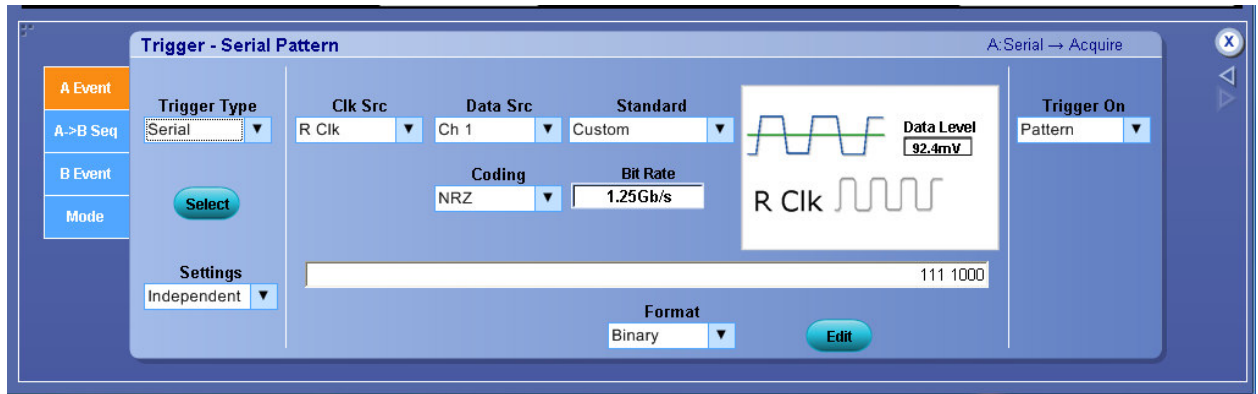

Figure 4: Trigger setup for Differential AC Output Voltage Amplitude
5. Go to Trigger menu, change the trigger Type to Serial, Source to DIF-P (Ch1), Bit rate to 1.248 GB/s, Pattern length is 0111100011 (Binary) 10 bit. Shown as in Figure 4.